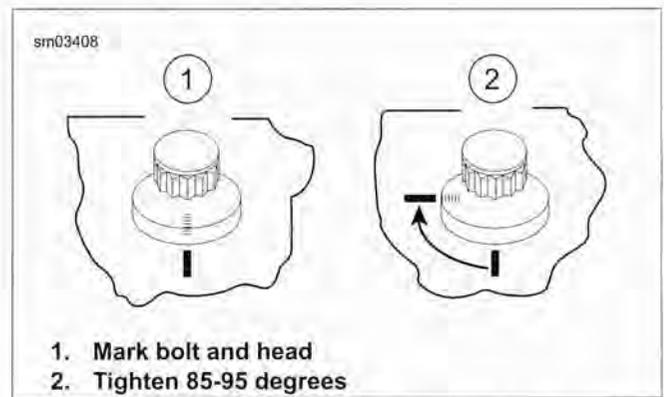

Figure 3-98. Tightening Head Bolts
- c. See Figure 3-98. Mark cylinder head and head bolt shoulder with a line (1).
- d. Tighten each bolt an additional 85-95 degrees (2).